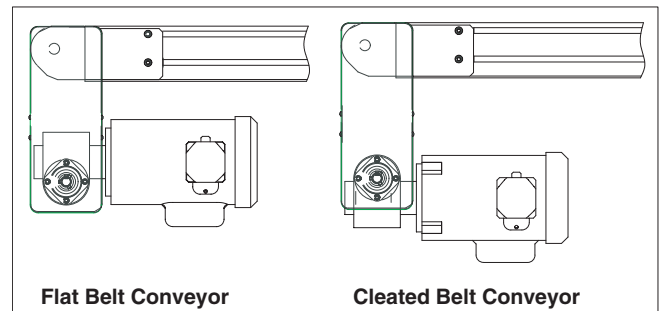

Figure 22
*Gearmotor position on Flat Belt conveyor shown below left, **Figure 22**. Gearmotor position on Cleated Belt conveyor shown below right, **Figure 22**.*